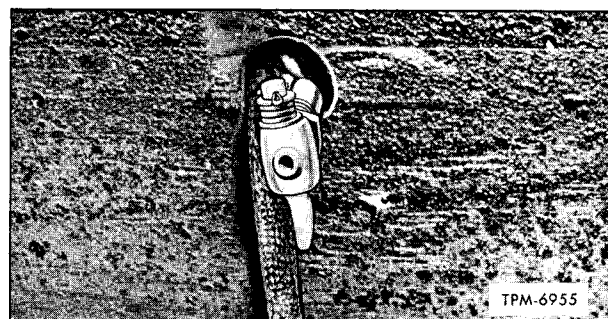

Figure 12—Heater Line Drain Cock At Rear of Left Wheelhouse
6. Open drain cock (fig. 12) underneath floor just to rear of left rear wheelhouse, to drain supply line connecting modulation valve and underfloor heater core.